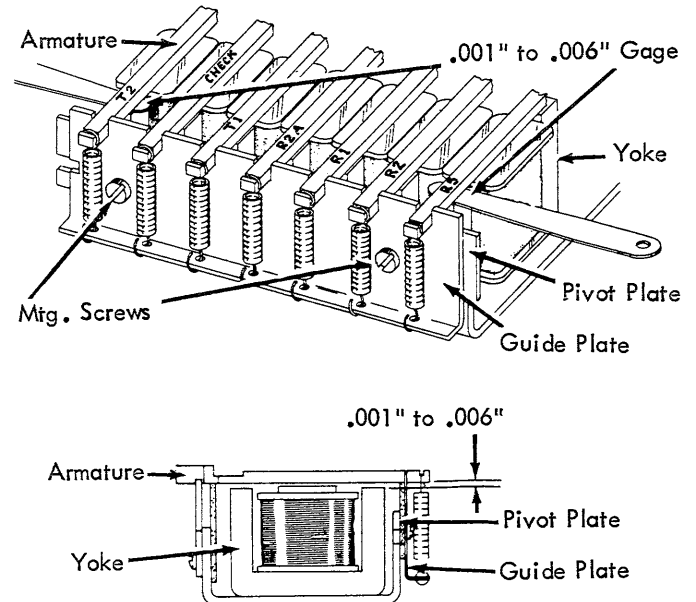

FIGURE 10. Pivot Plate
1. Pivot Plate (Fig. 10) - Adjust for a clearance of .001" to .006" between the yoke and armatures with the armatures manually attracted. Measure clearance of the outside armatures (T2 & R5).
2. Guide Plate (Fig. 10) - Position as follows:
- c. Apply slight pressure to the T2 and R5 armatures (Fig. 10). Both armatures should be touching the trip bail. If not, adjust the pivot eccentrics to satisfy this condition.